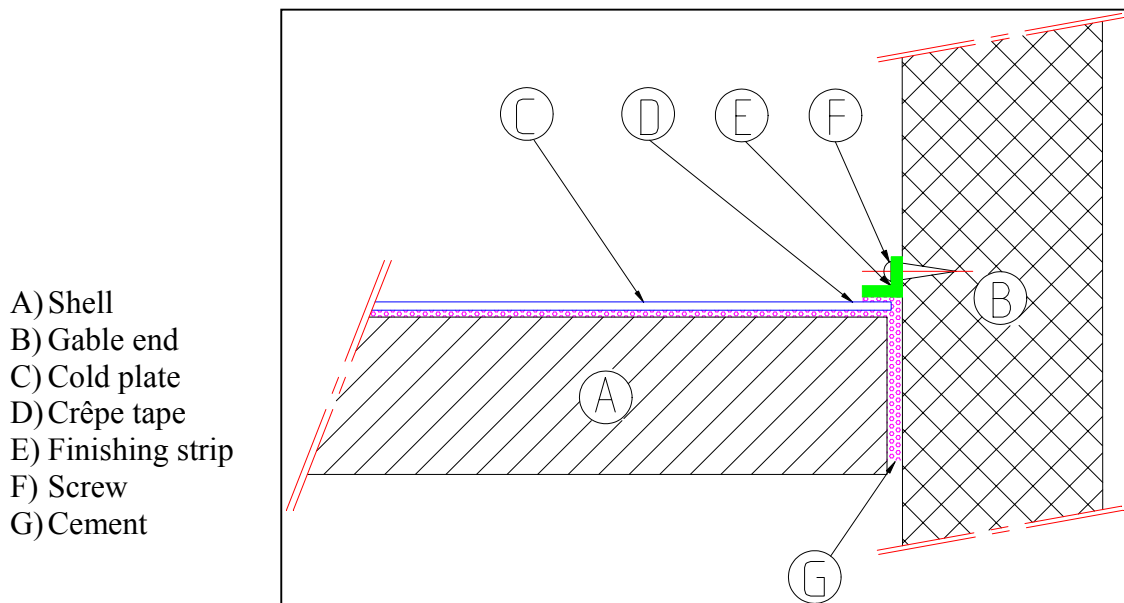

Figure 7
1. Using a solvent, clean the surface of the shell (A) and the gable end (B) to be cemented (see figure 7). Allow the solvent to evaporate for 30 minutes!!
2. Apply crêpe tape (D) 1 mm outside the radius of the plate (press firmly!). See figure 7.
3. Apply primer (Puraflex 5008) to the sides to be cemented, see figure 7, shell edge (A), gable end (B) and the finishing strip for connecting the Vision gable end (E). Allow the primer to dry for 20 minutes.
4. Seal the joint with grey assembly cement (0073834) and fit the angle strip as shown in figure 8 (point C) and figure 7 (point G). Remove excess cement with a rubber skimmer.